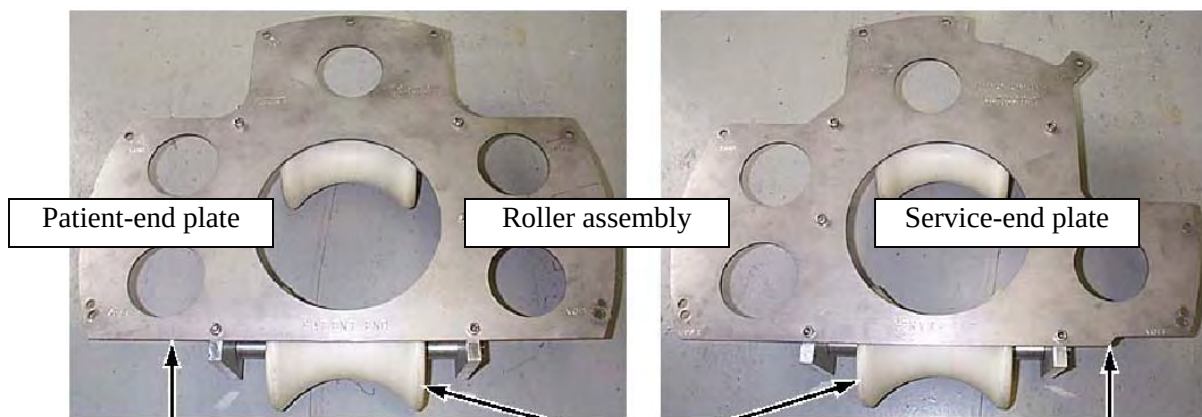

FIGURE 37 – Roller assembly and Mounting Plate
- G. Obtain the two Tube Guide Roller Assemblies (5308402) and XRGB Mounting Plates (5161983, 5161985) from the Gradient Coil Insertion and Lift Kit's shipping crate. Make sure the Tube Guide Roller Assemblies are attached to the XRGB Mounting (**FIG 37**).